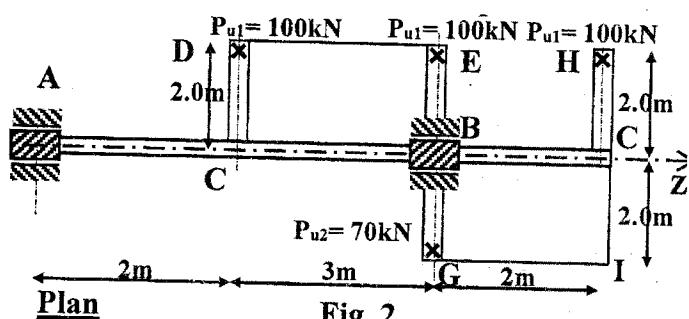

Fig. 2
v) Figure 2 shows plan of a beam with cantilever ABC supported on columns A and B. The beam carries four cantilever beams CD, BE, CH and BG. Also carries two cantilever slabs. An ultimate loads $P_{u1} = 100 \text{ kN}$ are applied at points D, E and H, whereas the ultimate load $P_{u2} = 70 \text{ kN}$ is applied at point G. the cantilever slabs carry an ultimate total uniform load = 20 kN/m^2 . The columns A and B are restrained against rotation about z axis. Neglect own weight of all beams and slabs. It is required to draw B.M.D, S.F.D and T.M.D of the beam ABC. Find the total reactions at the column B. (8marks)